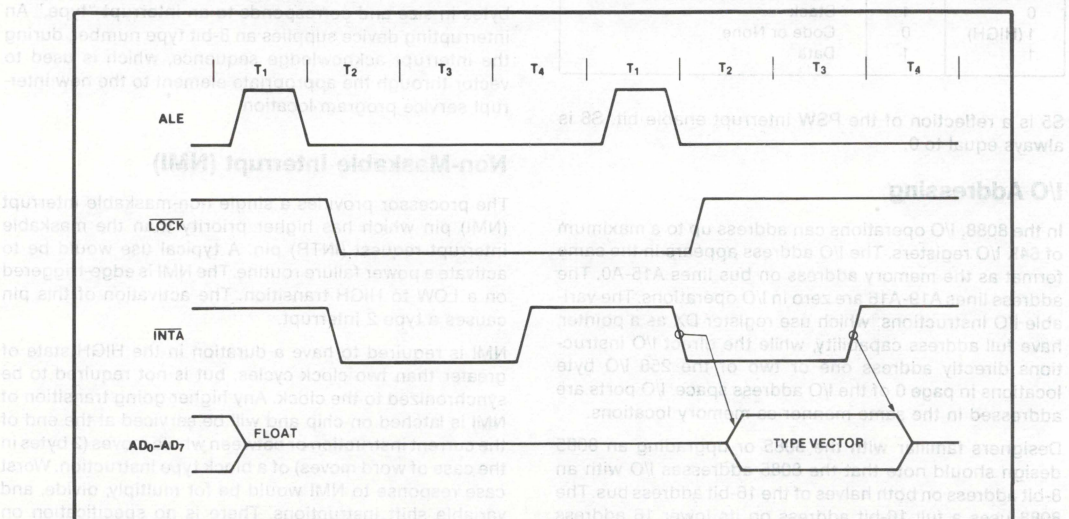

Figure 9. Interrupt Acknowledge Sequence
During the response sequence (See Figure 9), the processor executes two successive (back to back) interrupt acknowledge cycles. The 8088 emits the LOCK signal (maximum mode only) from T₂ of the first bus cycle until T₂ of the second. A local bus "hold" request will not be honored until the end of the second bus cycle. In the second bus cycle, a byte is fetched from the external interrupt system (e.g., 8259A PIC) which identifies the source (type) of the interrupt. This byte is multiplied by four and used as a pointer into the interrupt vector lookup table. An INTR signal left HIGH will be continually responded to within the limitations of the enable bit
The basic difference between the interrupt acknowledge cycle and a read cycle is that the interrupt acknowledge (INTA) signal is asserted in place of the read (RD) signal and the address bus is floated. (See Figure 9.) In the second of two successive INTA cycles,